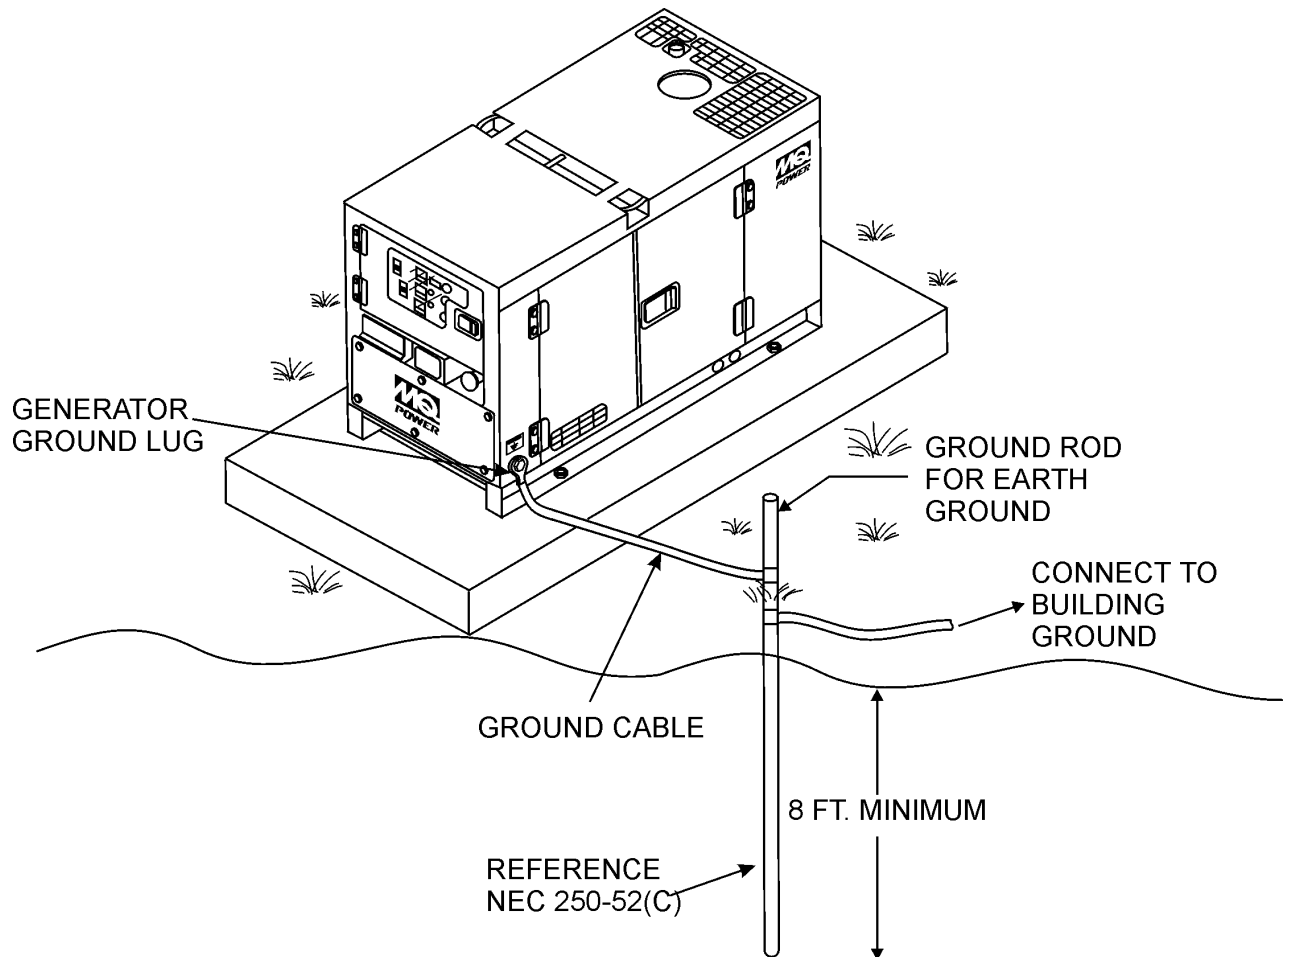

Figure 30. Typical Generator Grounding Application
2. When grounding the generator (Figure 30) connect the ground cable between the lock washer and the nut on the generator and tighten the nut fully. Connect the other end of the ground cable to earth ground.